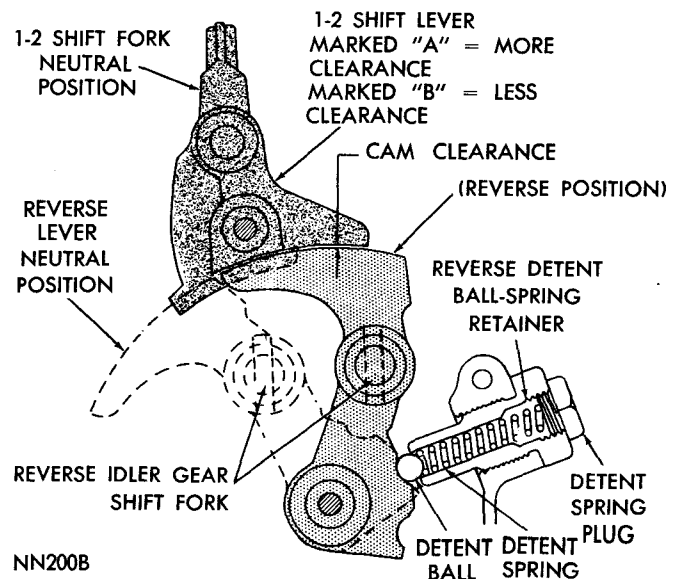

Fig. 34—Reverse Interlock
(10) The reverse shift lever and 1-2 shift lever have cam surfaces which mate in reverse position (Fig. 34) to lock the 1-2 lever, fork and synchronizer in neutral position.
Test for correct action by placing transmission in reverse. Then, while turning input shaft, move 1-2 lever in each direction. If input shaft locks or becomes harder to turn, the synchronizer is partly engaging caused by too much cam clearance. Select new 1-2 shift lever, size "A" or "B" as required (Fig. 34). If